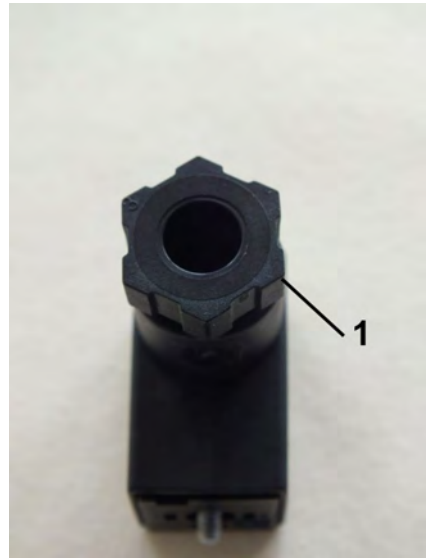

Fig. 24: Disconnect the screw connection
4. ➤ Unscrew the screw connection (Fig. 24/1) by turning in the left direction
8. ➤ Retighten the screw connection (Fig. 24/1) by turning it to the right